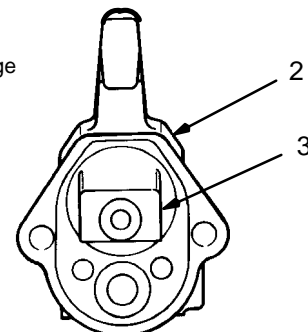

Fig 18
NOTE: See Fig 18 for proper alignment of the power cartridge (3) in the gun handle (2).
5. Install the gasket (46) in the gun handle (2).